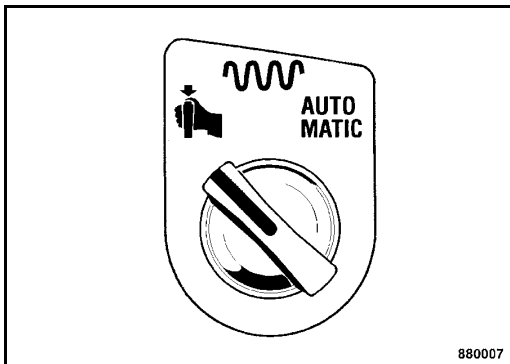

Fig. 73
- Turn the rotary switch for vibration in manual or automatic mode (Fig. 73) anti-clockwise to the symbol "Manual".